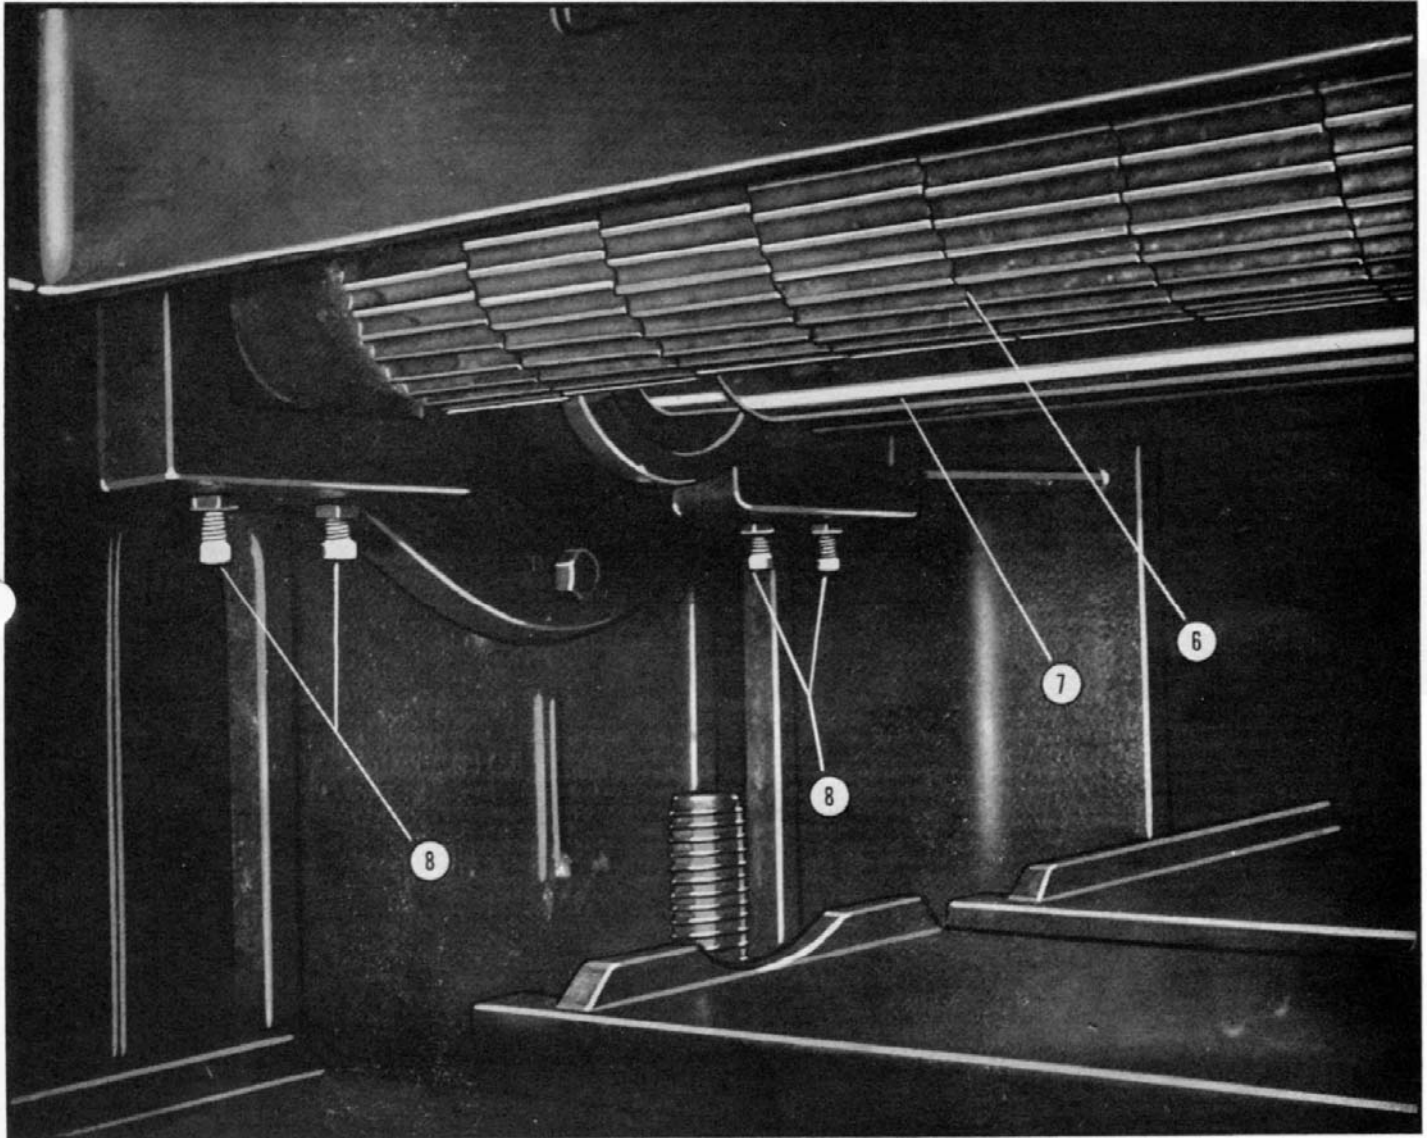
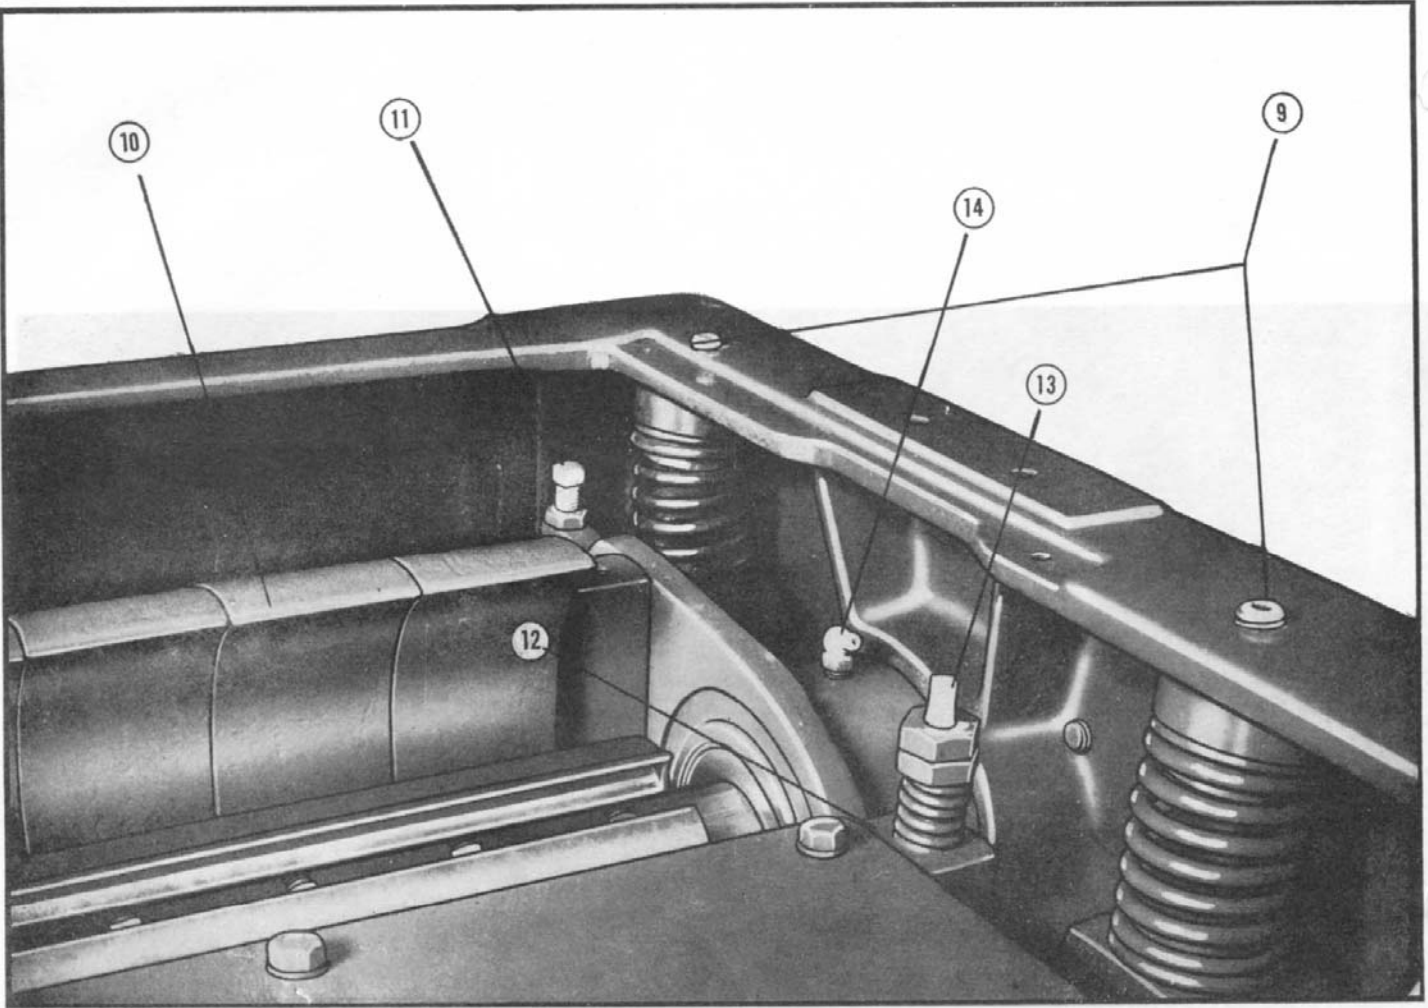

Figure 2
Figure 3
The sectional infeed roller and the smooth outfeed roller are driven by roller chains and sprockets with a 1½ HP motor in the base of the planer. The rollers are mounted in the floating type bearing housing and operate in sealed ball bearings that require no lubrication. The floating bearing housings are held in position with pressure springs. Tension on springs is controlled with set screws (9) fig. 3. The height of the feed roller (from bed) is adjusted with jack screws (8) fig. 2. For best results, the roller must be set approximately 1/16" below the arc of the cutterhead knives. To set the roller, lower the planer bed about 4" below arc of cutterhead and place a gauge or wooden block (2" x 4" x 4") directly under the cutterhead. Rotate the cutterhead (with hand) until one knife is directly on the bottom of the cutting arc (straight down) and raise the planer bed until the block or gauge is 1/16" below the knife's edge. Check feed roller in relation to the block and adjust with jack screws (8) fig. 2 until the roller just clears the block. The feed roller pressure springs are designed so that a very limited amount of pressure adjustment is required. Too much pressure will cause infeed roller to mark the material being planed; insufficient pressure will restrict feed.
The sectional type chipbreaker is constructed with 2" spring loaded sections mounted on a bar and swings concentric with cutterhead. The individual sections have approximately ¼" yield each. The lower edge of the chipbreaker should be exactly parallel (same height) with the sectional infeed, 1/16" below arc of cutterhead knives. Chipbreaker height is adjusted with the adjusting screws (11) fig. 3.
THE PRESSURE IS THE MOST IMPORTANT AND CRITICAL ADJUSTMENT ON YOUR PLANER. If the pressure bar is too low the material will not feed through the machine; if too high, the knives will snipe the board about 6" from the end. The pressure bar is very close to the cutterhead and as material passes under the knives, the pressure bar holds the board down on planer bed until it reaches the outfeed roller. The pressure bar should be set on a parallel (same height) with the arc of the cutterhead knives. When the knives wear or become dull, it is necessary to re-adjust the pressure bar to compensate for the wear. The pressure bar is adjusted with screws (13) fig. 3. Turn the screws to the right (clockwise) to lower bar, to the left (counterclockwise) to raise the bar.